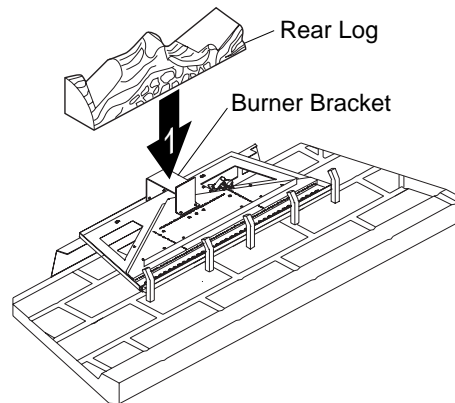

Figure 20 - Installing Rear Log
1. Center the rear log on the support bracket welded to the back of the burner. Press the log down onto the bracket (see Figure 20).